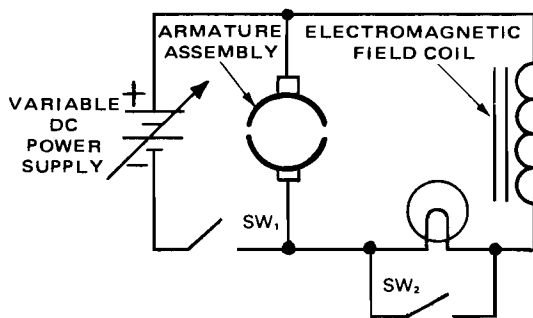

Fig. 12-3-2
11. Turn off circuit switch and add No. 47 lamp and switch to motor as indicated in Fig. 12-3-2.